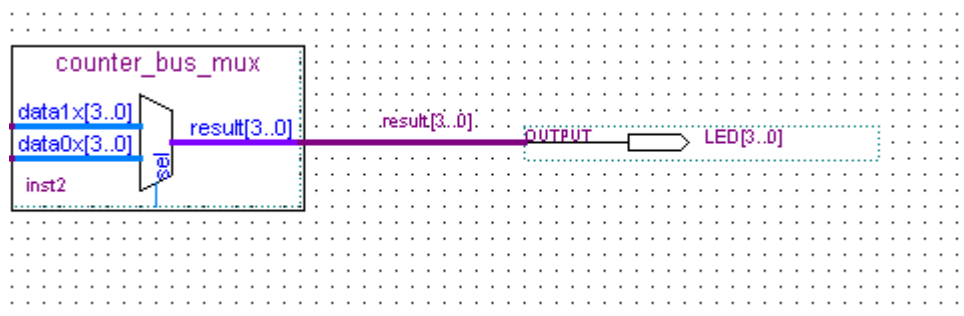

Figure 3-27 Rename the output pin
18. Rename the output pin as LED [3..0] as described in steps 13 c and d. (see **Figure 3-27**).